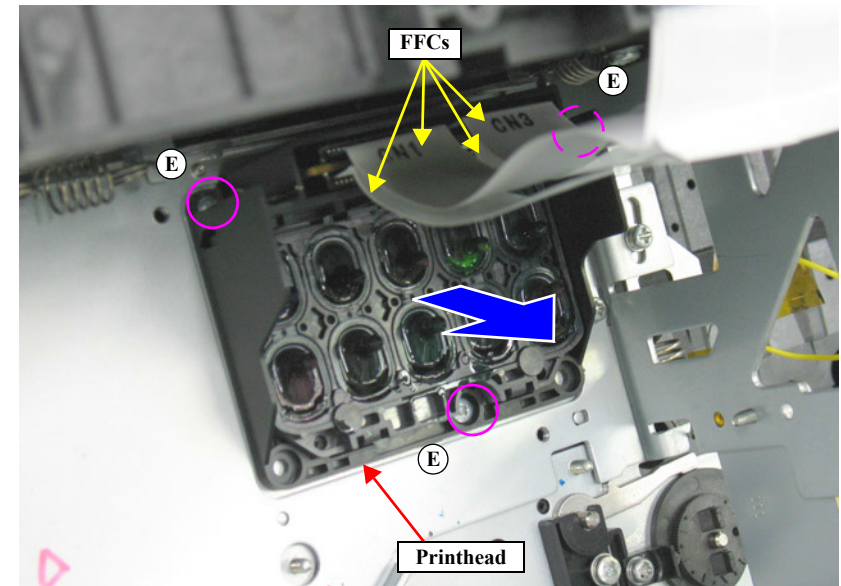

Figure 4-120. Removing the Printhead
16. Disconnect four FFCs from the Printhead. *See Figure 4-120.*
17. Remove the three screws that secure the Printhead, and remove the Printhead. *See Figure 4-120.*